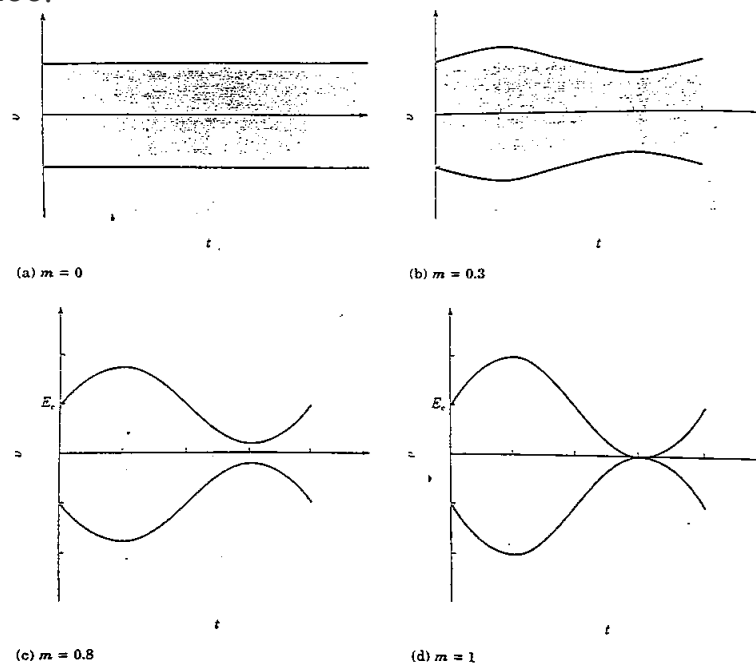

Fig. 7-6 AM envelopes for various values of m
- $m = 0$ this means $V_m = 0$ and we have unmodulated carrier signal as in Fig. 7-6(a)
- m varies between 0 and 1, the change due to modulation become more cleared as in Fig. 7-6(b,c,d)